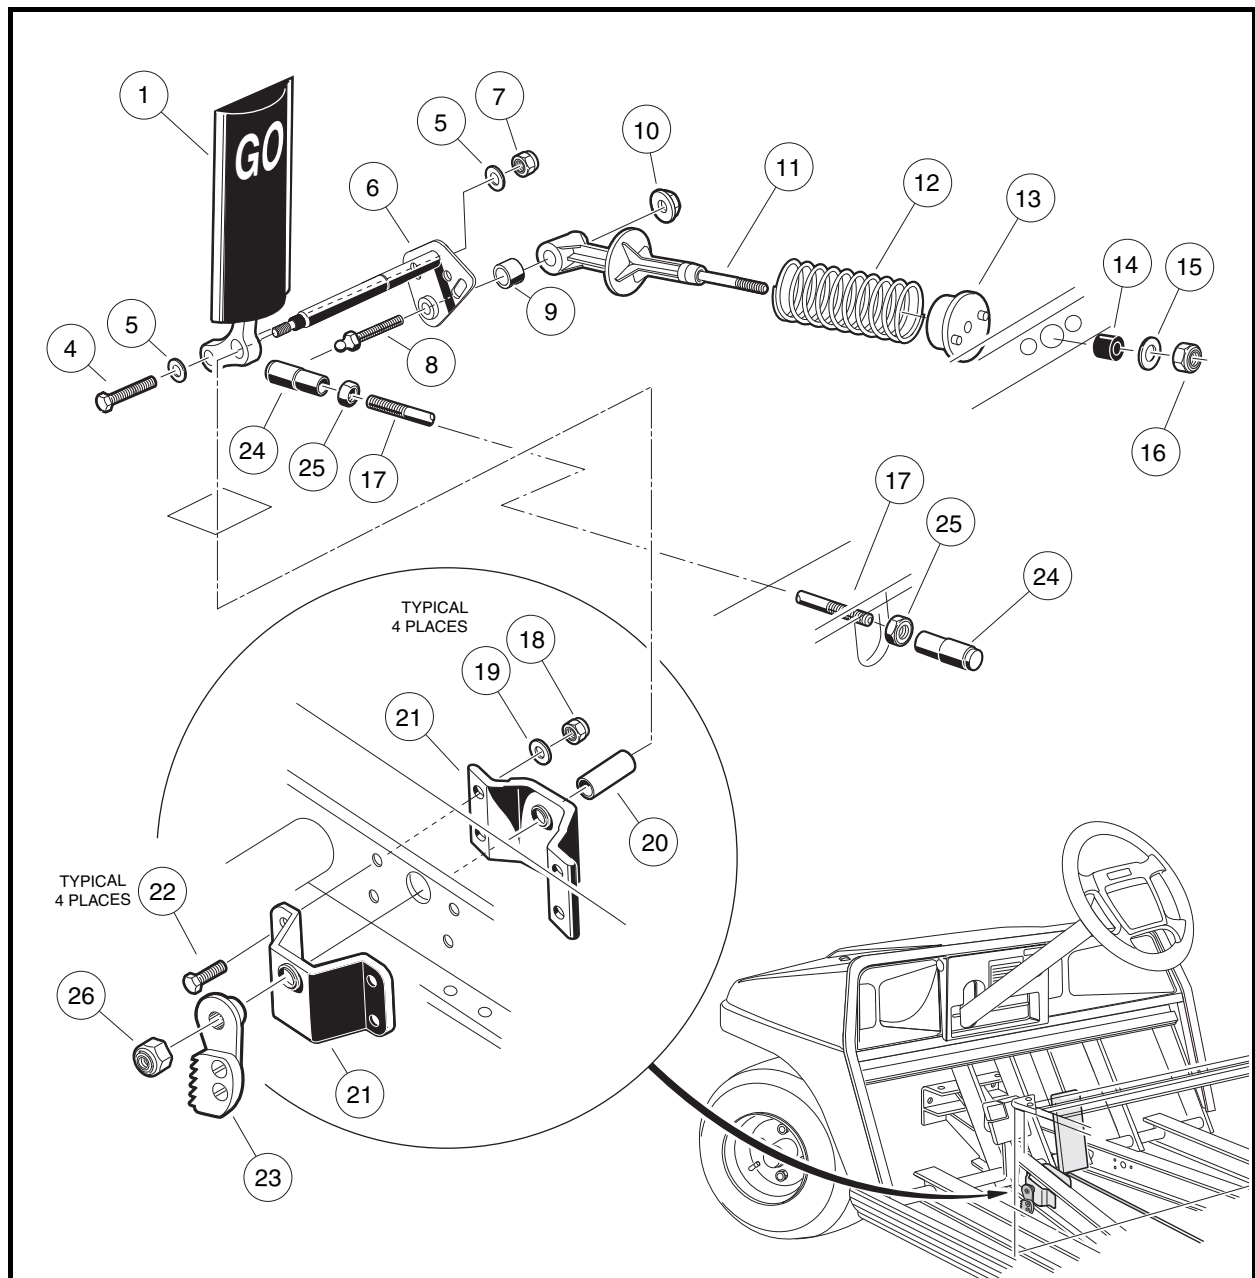
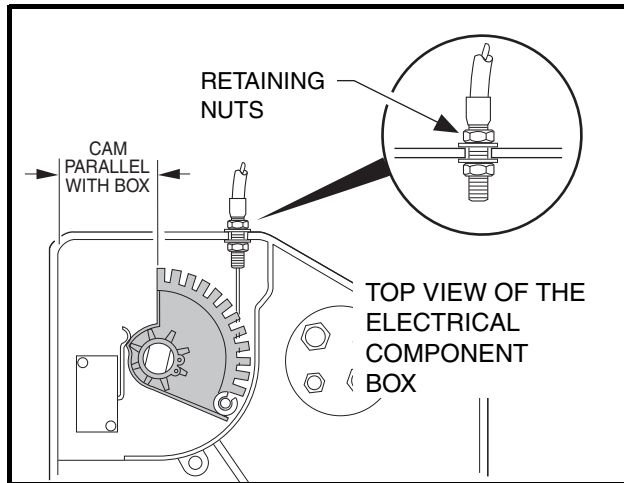

Figure 5-6 Accelerator Pedal – Gasoline Vehicles
Figure 5-19 Accelerator Cable
3. Disconnect the accelerator rod assembly (17, 25, and 24) (**Figure 5-6, Page 5-7**) at the front and rear ball studs and remove it from the vehicle.
4. Use a 9/16-inch socket and 9/16-inch wrench to remove the nut (7), two washers (5), and bolt (4) securing the accelerator pedal (1) to the pivot rod (6).
5. Remove the nut (10) and ball stud (8) from the accelerator pivot rod assembly (6).
6. Slide the spring retainer (11) off of the accelerator pivot rod.
7. Inspect the pivot support bearing (9) for wear and replace if necessary.
8. Use a marker to mark the position of the park brake ratchet (23) on the accelerator pivot rod (6). See following **NOTE.**
9. Remove the lock nut (26) from the accelerator pivot rod (**Figure 5-6, Page 5-7**).
10. Press the brake pedal slightly and slide the park brake ratchet (23) toward the end of the accelerator pivot rod. Rotate the ratchet and remove it from the pivot rod.
11. Remove the pivot rod (6) and spacer (20) from the accelerator pivot rod supports (21).
12. Inspect the accelerator pivot rod supports (21) for wear and damage and replace if necessary. If the pivot rod supports do not require replacement, loosen, but do not remove, the four bolts (22) and lock nuts (18) to make installation of the pivot rod easier.
13. Remove the accelerator pedal (1) from the vehicle.
1. If the accelerator pivot rod supports were replaced, position the supports (21) on the vehicle frame and install the four bolts (22), flat washers (19), and lock nuts (18). Finger-tighten nuts at this time **(Figure 5-6, Page 5-7)**.
2. Insert the lower end of the accelerator pedal (1) through the floorboard and install the accelerator pivot rod (6) through the uppermost hole in the pedal.
3. Install the plastic spacer (20) on the pivot rod (6).
5. Tighten the four bolts (22) attaching the pivot rod supports to the frame to 75 in-lb (8.5 N·m).
6. Install the bolt (4), two washers (5), and a new lock nut (7) through the lower hole in the pedal and through the pivot rod. Finger-tighten nut at this time.
7. Install the ball stud (8) through the pivot rod. Install the spring retainer (11) onto the ball stud. Secure these parts with the nut (10) **(Figure 5-6, Page 5-7)**. Tighten the nut to 75 in-lb (8.5 N·m).
11. Install the nylon lock nut (26) on the pivot rod and tighten the nut to 18 ft-lb (24 N·m) **(Figure 5-6, Page 5-7)**.
12. Install the accelerator rod assembly (17, 25, and 24) **(Figure 5-6, Page 5-7)**.
- 5.2. Loosen the jam nuts (25) and disconnect the accelerator rod (17) at the accelerator pedal (**Figure 5-6, Page 5-7**). Adjust the length of the rod so the indicated cam edge is parallel with the edge of the electrical component box as shown (**Figure 5-19, Page 5-15**). **See following CAUTION.**